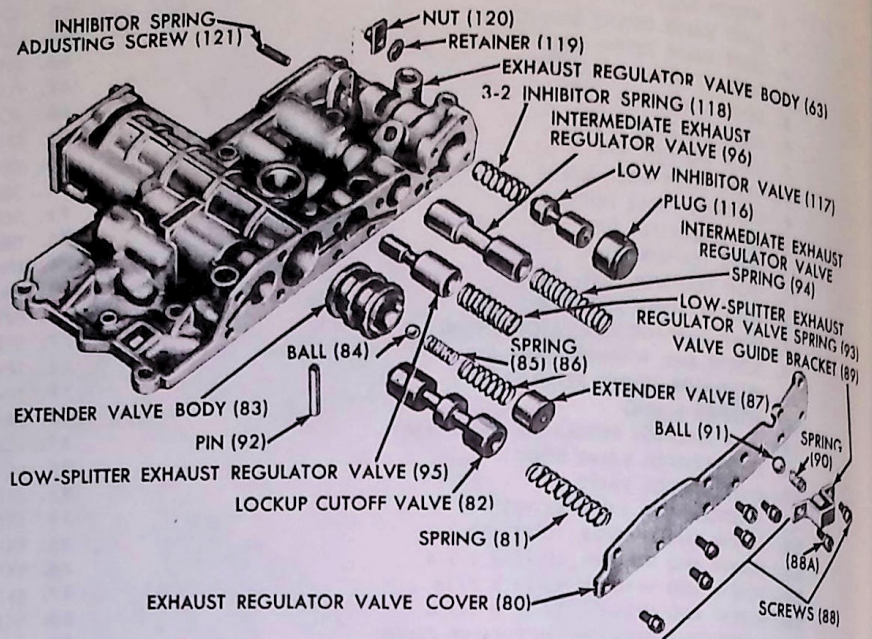

FIG. 28 Exhaust Regulator Valve Body—Front View
8. If the pipe plug (76) was removed, reinstall.
9. Install the inhibitor valve (122), inhibitor spring (123), flat washer (124) and new cotter pin (125) in the bottom of the exhaust regulator body (63).
10. If the extender valve body (Fig. 28) (83) was removed, install it with the roll pin (92). Press the pin (92) into the valve body (63) until it is